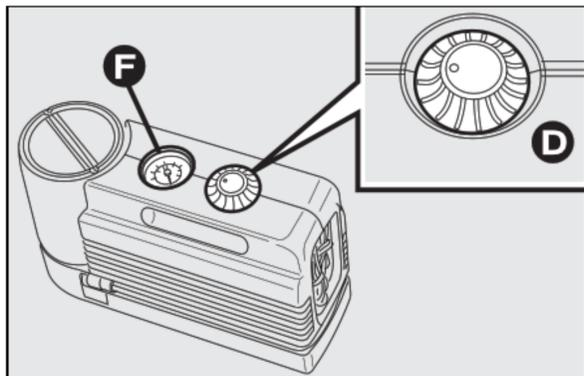
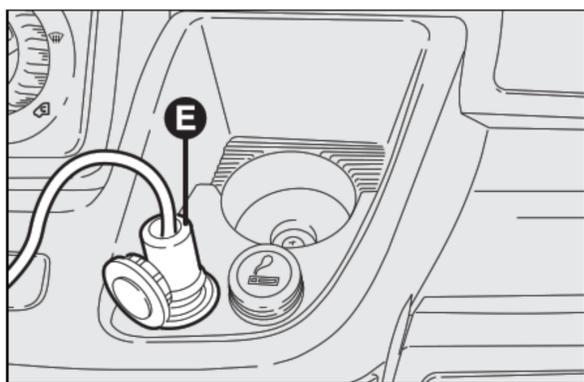

fig. 13
fig. 14
- make sure the compressor switch **D**-fig. 13 is set to 0 (off), start the engine and fit plug **E**-fig. 14 into the nearest current outlet and then turn on the compressor by setting switch **D**-fig. 13 to I (on). Inflate tyre at 4 bar pressure.
Check tyre pressure on gauge **F**-fig. 13 with compressor off to obtain precise reading;